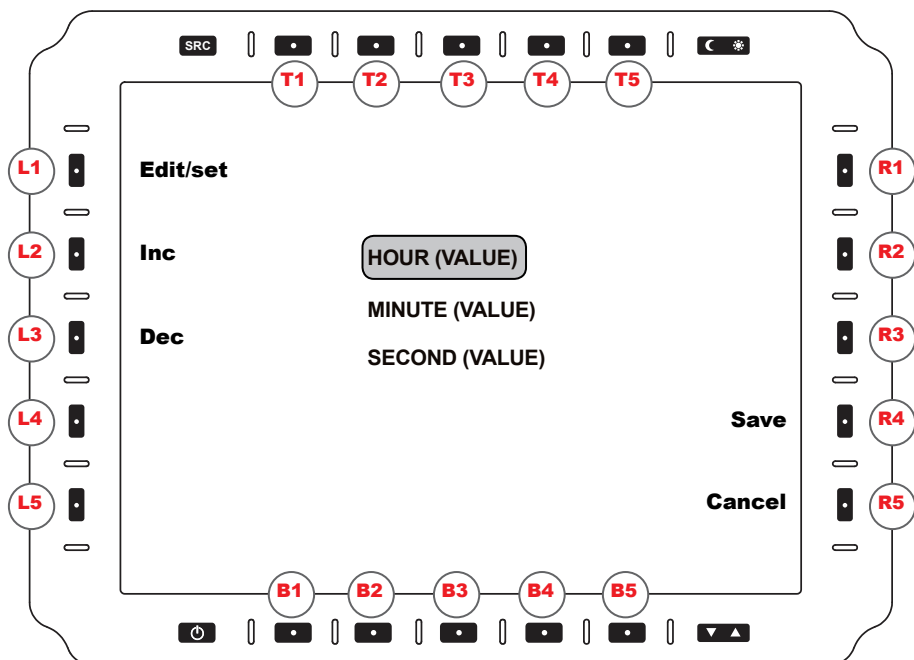

Figure 25
**TIME (R2).** Opens Time Adjust Menu (Figure 25).
The Time Adjust Menu (Figure 25) is accessed through R1 in the Main Menu screen (Figure 8). This menu allows the user to establish TIME settings. The highlight indicates the value to be changed.